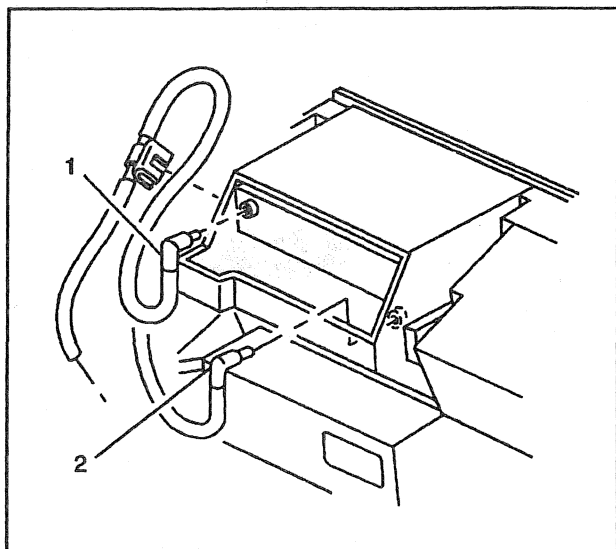

Figure 37—Antenna Extension Cable Routing to Radio
Remove or Disconnect (Figures 37, 38, and 39)
2. Extension cable from radio (figure 37).
Install or Connect (Figures 37, 38, and 39)
1. Extension cable to radio (figure 37).